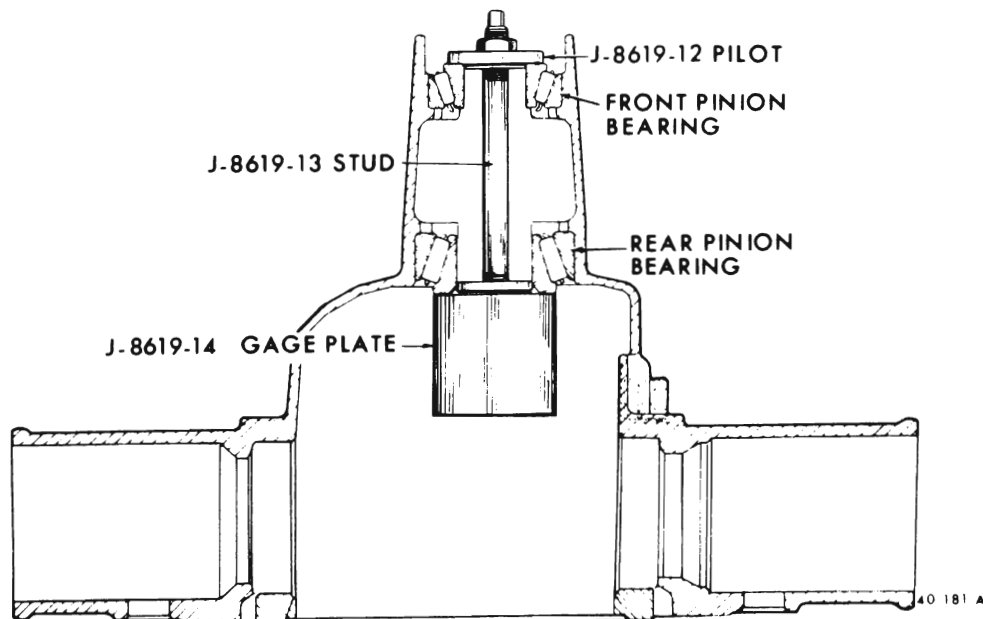

Figure 40-192 - Gage Plate and Bearings Installed
3. Assemble pinion bearings, pinion setting Gage Plate J-8619-14, Stud Assembly J-8619-13 and front bearing Pilot J-8619-12 into carrier assembly and tighten hex nut until 20-25 lb.in. (new bearings) or 10-15 lb.in. of torque is required to rotate the bearings. See Figure 40-192.
4. Install dial indicator, with ball-tipped contact button attached on the indicator gage. Install Discs J-8619-15(L) and J-5647-41(R) on indicator gage.